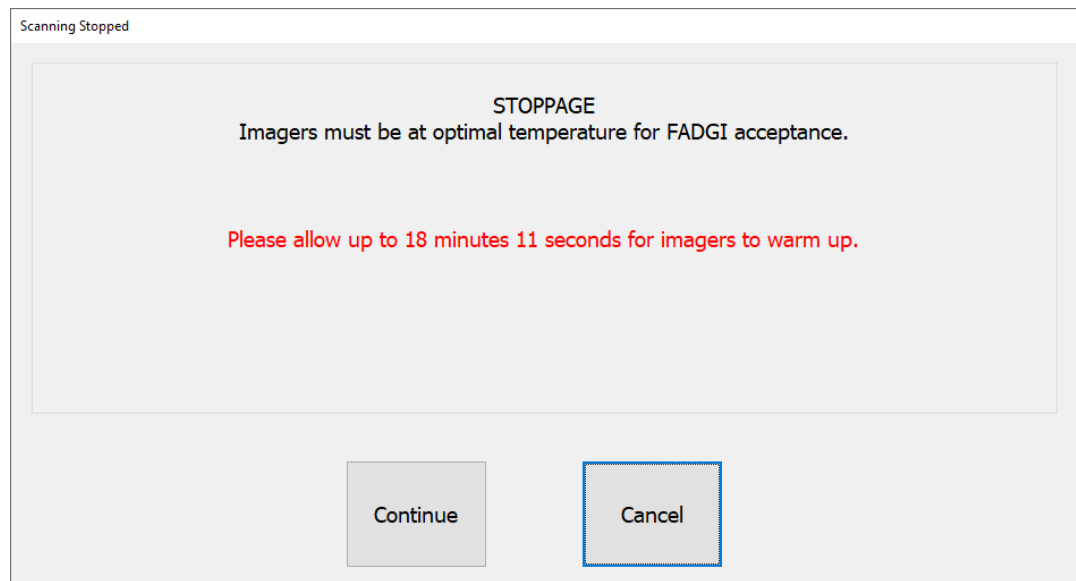

Figure 3-34: Timer Screen
4. When you start a FADGI Job, you may be presented with a timer screen. The CIS's must reach optimal temperature before beginning a FADGI Job, because a "cold" CIS can impact the scanned colors. (Figure 3-34).